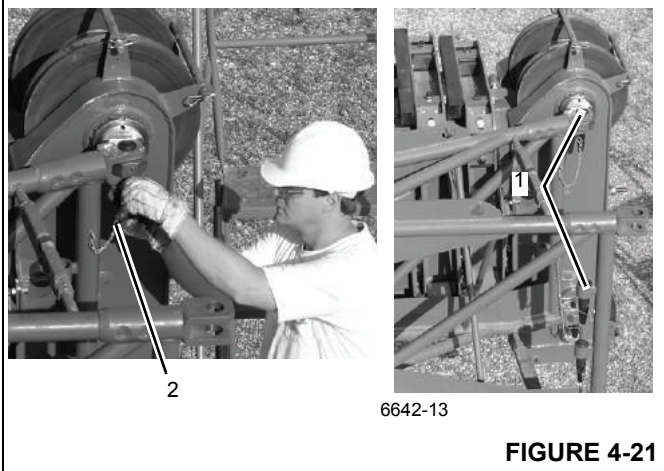

FIGURE 4-21
11. Remove pins (1, Figure 4-21) stowed in extension and install in holes (right side of boom nose) and secure with retainer clips (2).